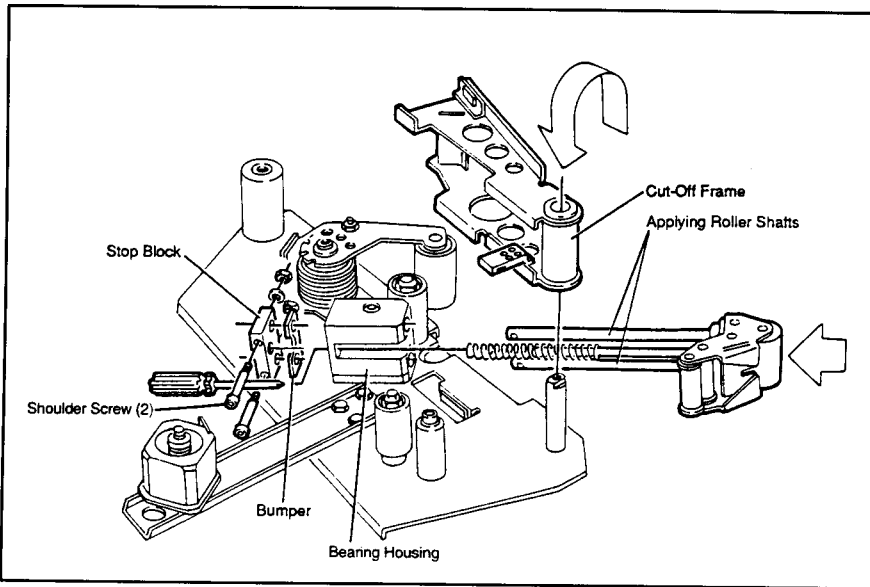

Figure 13
7. Reinstall the cut-off frame into the taping head. Slide applying roller shafts into bearing block and assemble bumper, stop block, shoulder screws, washers and nuts. See Figure 13.